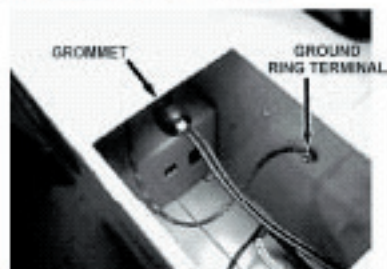

Fig. 2-36
12. Use screw from step 3 to attach ground wire ring terminal to side of coin box. (Fig. 2-36)
13. Place rubber grommet of harness over end of the mounting bolt. (Fig. 2-36)